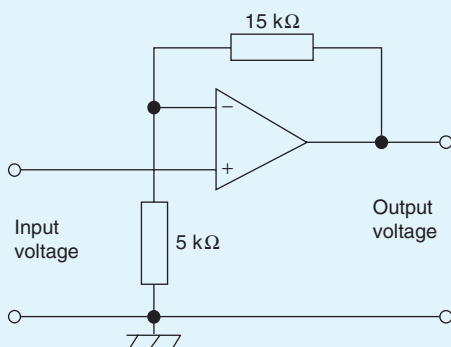

Figure 19.27
6. In the op amp shown in Fig. 19.27, the voltage gain is: